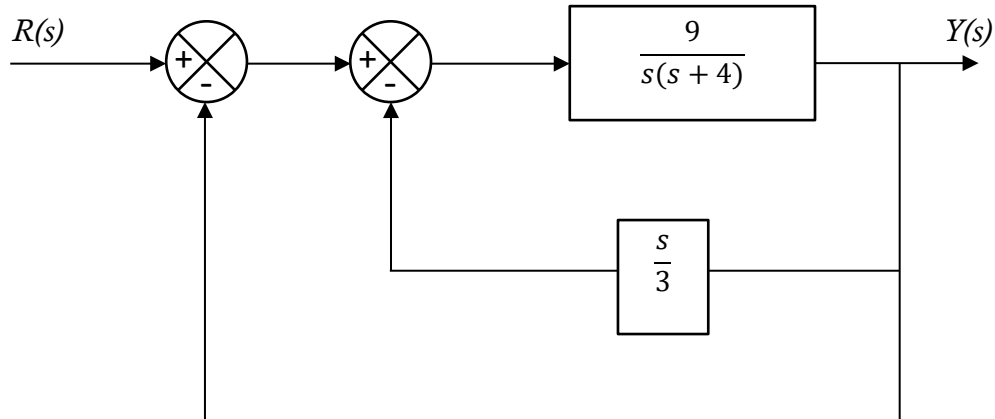

Figure Q2.1
- (a) Figure Q2.1 shows a control system involving a motor with both position and velocity feedback. Determine the damping factor with and without the velocity feedback. Hence explain the effects of velocity feedback on the output of the system in response to a unit step input.